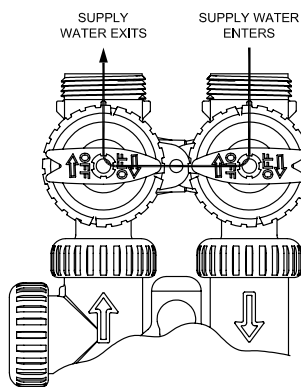
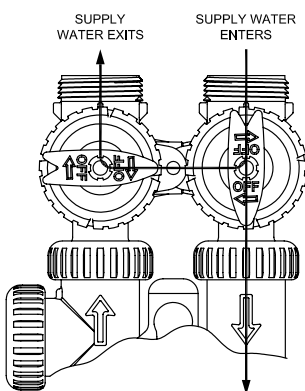

Figure 3
Figure 4
2. Place the bypass valve in the bypass position. (See figure 3 page 4) Turn on the main water supply. Open a cold soft water faucet to flush the piping of any air and/or foreign material. Run until the water is clear.
6. Push REGEN button and hold it down for 3 seconds. The system will advance to the “Fill” position. (Note: If the system is not programmed as “brine refill first”, “Backwash” will display first). Keep pushing REGEN button until “Rinse” shows in the lower right hand corner of display. Slowly place the by-pass into the “diagnostic mode” (see fig 4, page 4). Run water to the drain until it runs clear. Return the by-pass valve to the by-pass position (fig 3, page 4). Push REGEN button one more time, “Time” will appear in upper left hand corner of display.